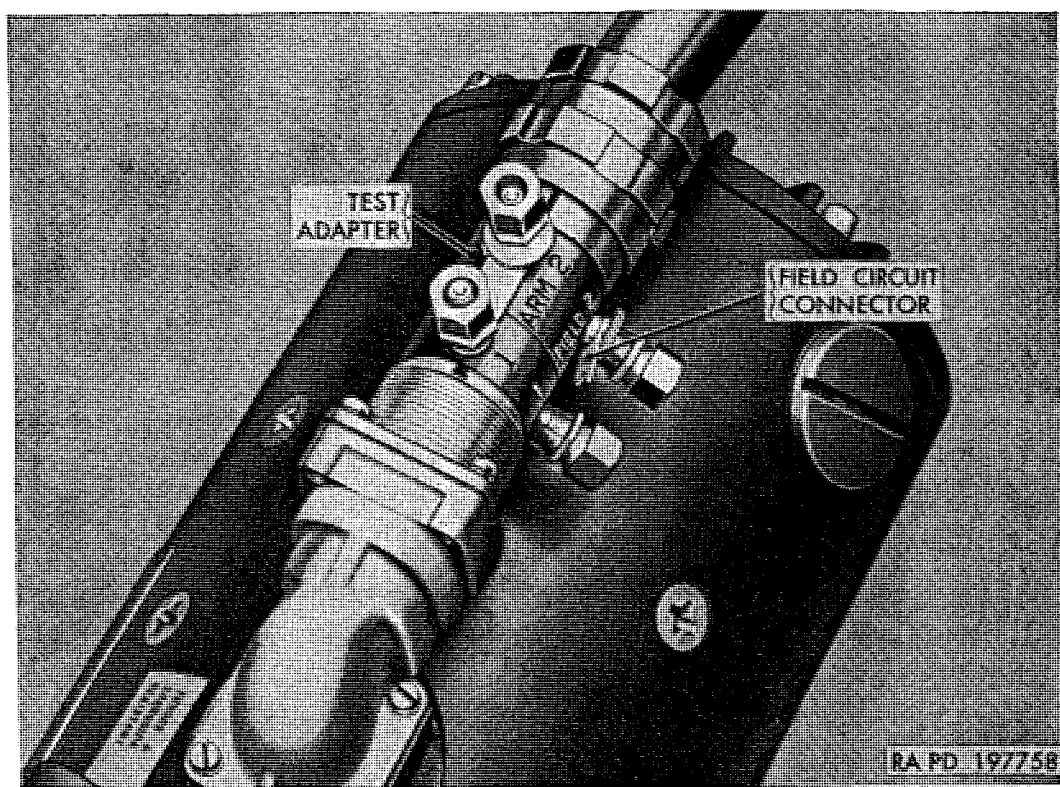

Figure 150. Test adapter installed—field circuit open.
- (b) Insert male end of test adapter into generator receptacle; then insert harness plug into female end of adapter (fig. 150).
- (c) Open the field circuit by opening the connector between Nos. 1 and 2 field terminals on adapter (fig. 150).